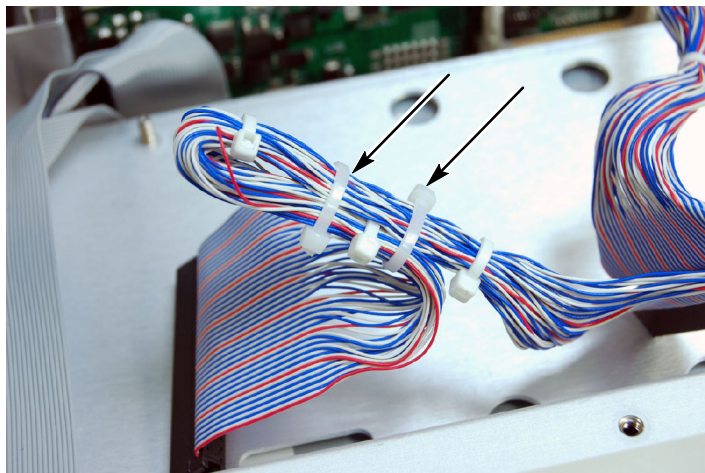

Figure 17: Cutting the cable ties on the IDE cable
14. Clip the cable ties that keep the IDE cable folded onto itself. See Figure 17.